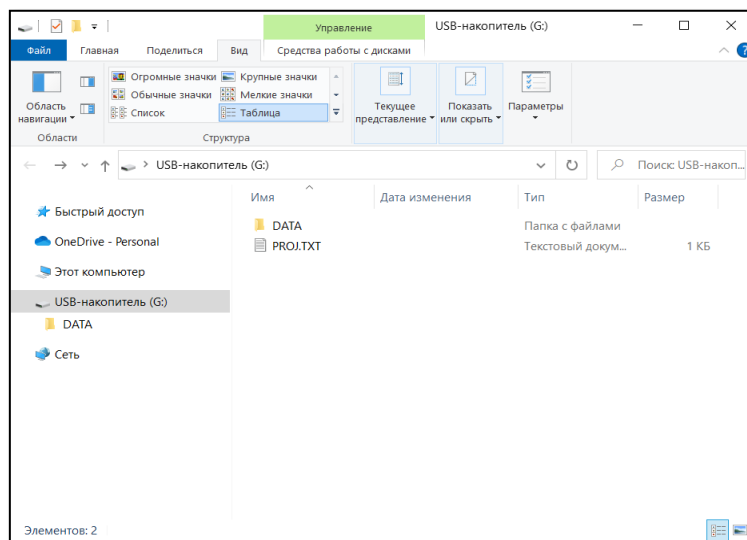

Figure 119 MaxiMag console root folder
4.1.2 Before connecting to a PC, make sure that the main menu is displayed on the screen of MaxiMag console. Then connect USB cable to the corresponding connector on the console. After the computer detects MaxiMag console, a window with the folder and data files stored (Figure 119) will appear on the computer screen, and the message “USB Mass storage ...” will be displayed on magnetometer console.